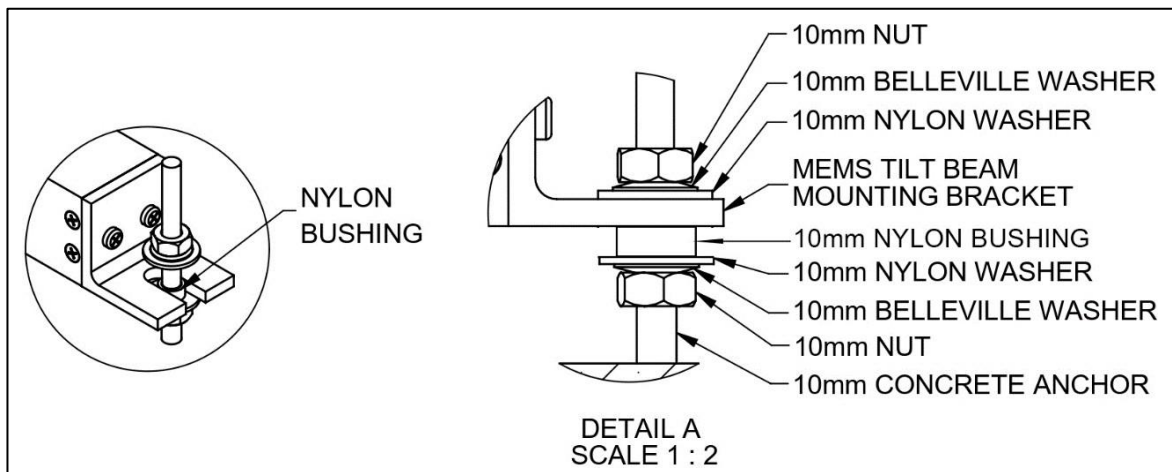

Figure 6: Single Tilt Beam Bolting Diagram
2. Referring to the bolting diagram in Figure 6, follow steps 3 – 9: